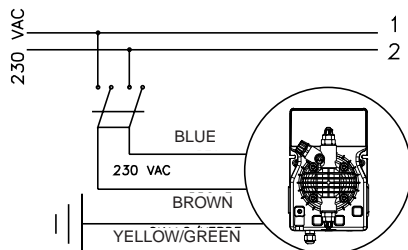

Fig. 4
1. **Disconnect the pins from the mains or by means of a two poles switch with 3 mm minimum distance between the contacts. (Fig. 4).**
1. Disconnect the pins from the mains or by means of a two poles switch with 3 mm minimum distance between the contacts. (Fig. 4).
- b. - Carefully observe the regulations in force in the various countries as regards electrical installations (Fig.4). **When the supply cable is devoid of a plug, the equipment should be connected to the supply mains by means of a two-poles switch having a minimum distance of 3 mm between the contacts. Before accessing any of the electrical parts, make sure that all the supply circuits are open.**